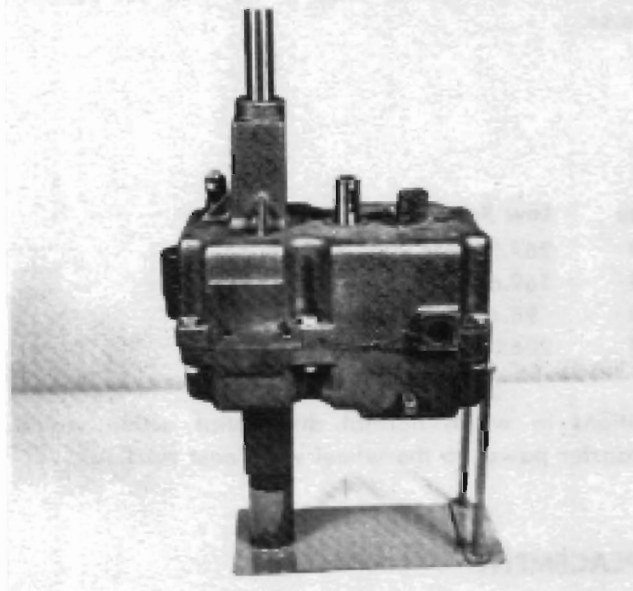

FIGURE 1
2. Place the transmission assembly in a vise or suitable holding fixture, as shown in Figure 1 (shown with levers, brake band, brake drum, hubs, and input pulley removed).